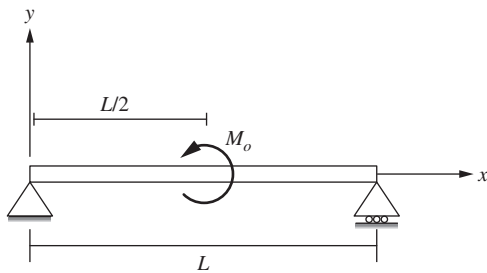

Figure P8.29 A simply supported beam for problem P8-29.
- 8-29.** A simply supported beam is subjected to an applied moment M_o at its center $x = \frac{L}{2}$ as shown in Fig. P8.29. The deflection $y(x)$ of the beam is given by